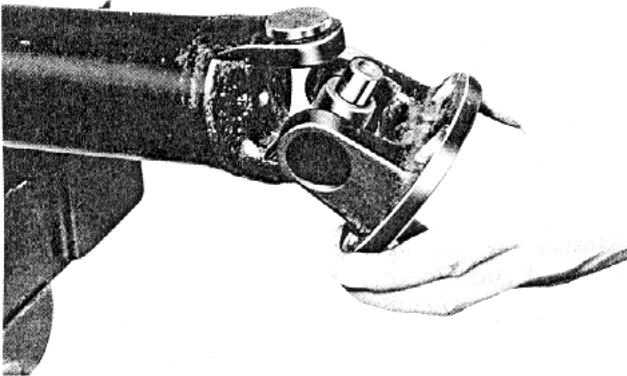

Fig. 8-15 Removing yoke and spider assembly
8. Remove the yoke and spider assembly as shown in Fig. 8-15.